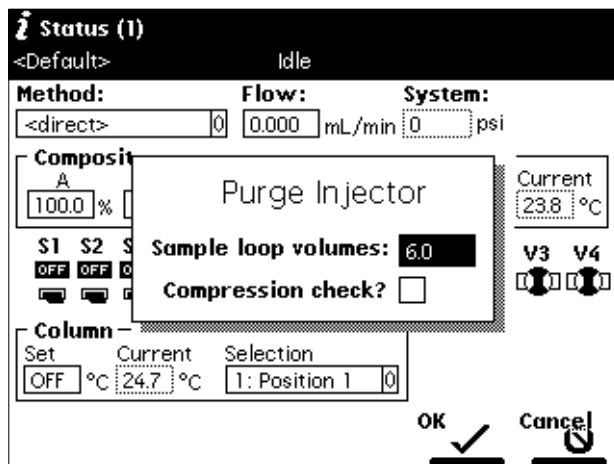

Figure 2-15 Purge Injector Dialog Box
4. Select **Purge Injector**, then press **Enter**. The Purge Injector dialog box appears (Figure 2-15).